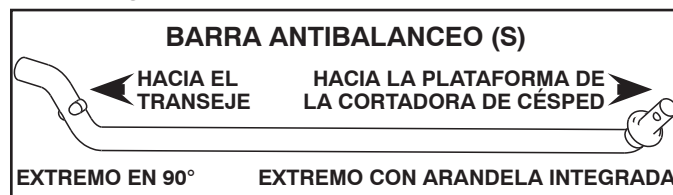

Fig. 28
5. SI LA TIENE, INSTALE LA BARRA ANTIBALANCEO (S) (Vea Fig. 28 - 30)